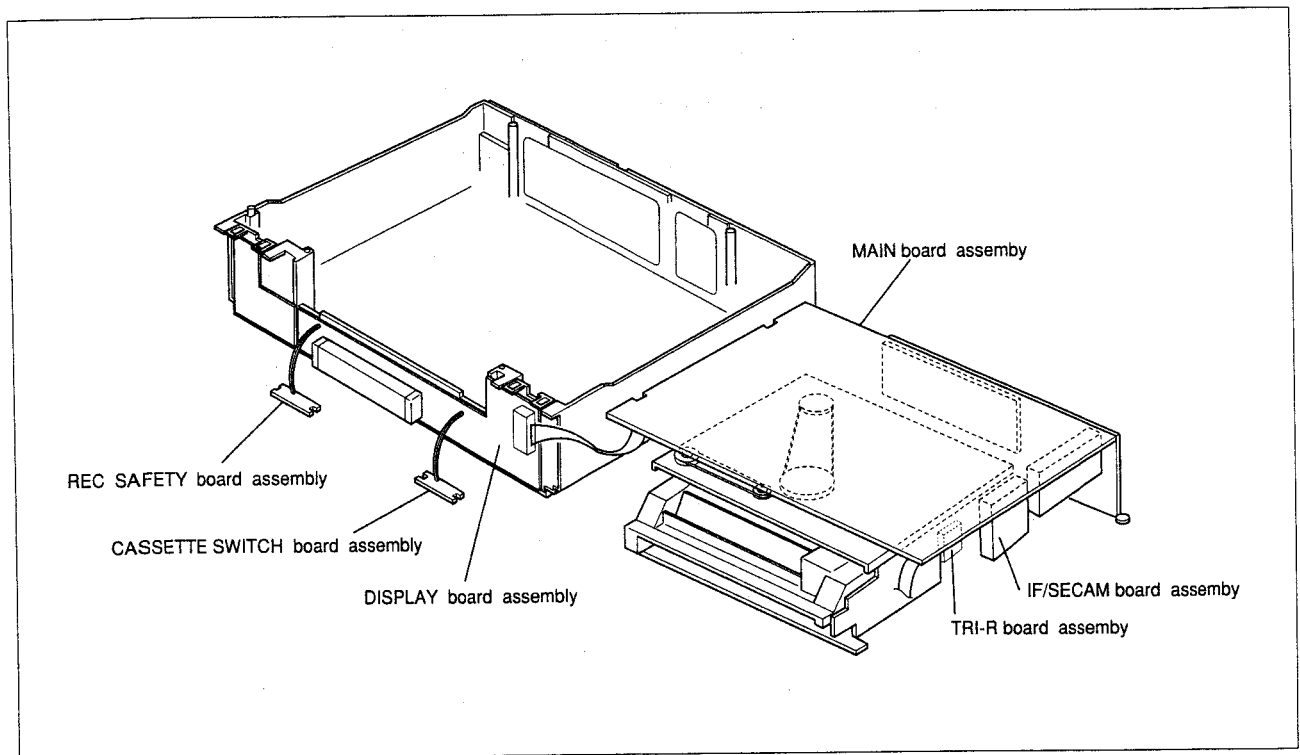

Fig. 1-5-3
- (5) Turn over the Mechanism assembly and Main board assembly then connect CN1201 of the DISPLAY board assembly.
- (6) Carry out checks & repairs as necessary as shown in Fig.1-5-3.